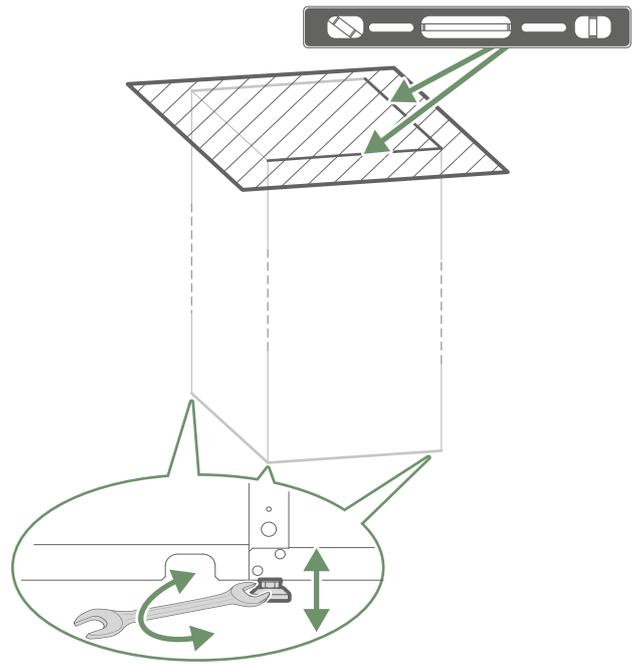

fig. 20 - Levelling
- Make sure the hydraulic unit is level (fig. 20).